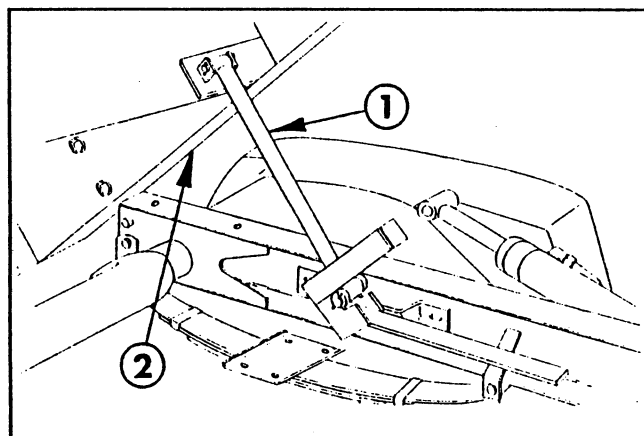

FIG. 9
34. Assemble the (2) 3/8" long spacers, clevis pin, and cotter pin to one end of the strut support rod. Insert the strut support rod through the support bracket located on the left side of the vehicle (FIG. 9).
35. Attach the strut support rod assembly to the inside of the skid at the rear bulkhead using the clevis and cotter pin (FIG. 9).
36. Locate and remove the (2) 1/2" bolts on each side of the vehicle frame and install the attachment mounting bracket using the bolts